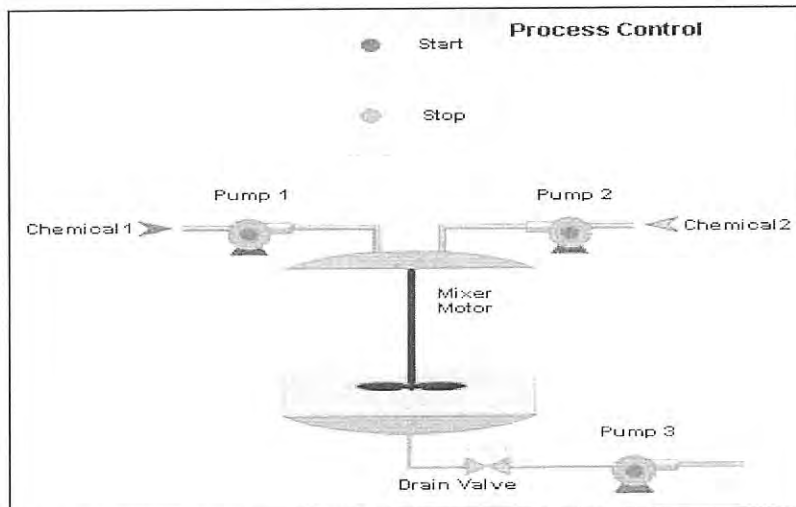

Figure Q3 (c)
- (c) Construct the GRAFSET Diagram of the following narrative question. Refer to **Figure Q3(c)**.